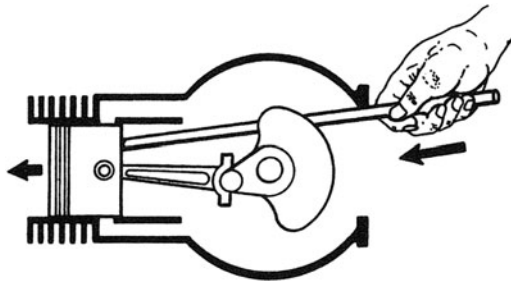

FIG. 6-7. When the head is detachable and the rod comes apart, drive out the piston with a hammer handle or wooden dowel.
- Fixed cylinder barrels with detachable cylinder heads and two-piece connecting rods require that the piston be pushed out from below (Fig. 6-7).